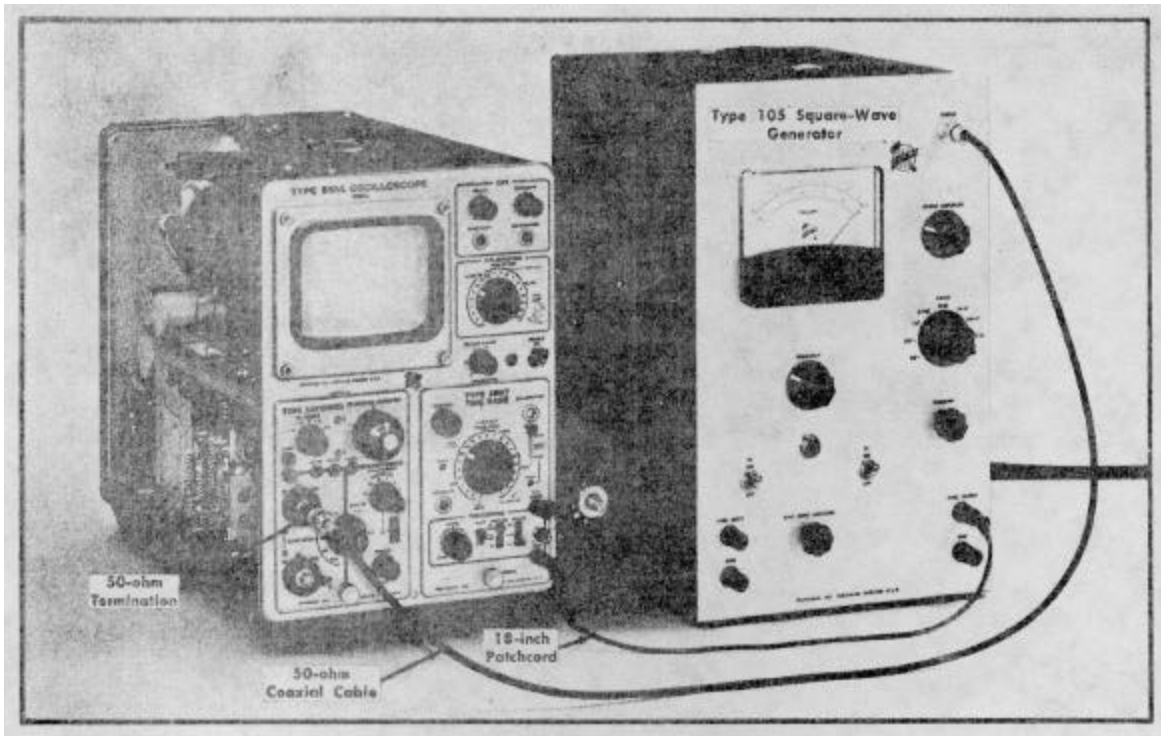

Fig. 5-22. Setup at completion of step 19c.
c. Apply a 10-kHz signal from the Type 105 Square-Wave Generator, or equivalent, through a 50-ohm coaxial cable and a 50-ohm termination to the Type 3A7 input A connector. Connect an 8-inch patch cord between the Type 105 Sync Output connector and the time-base Ext Trig connector. Fig. 5-22 shows the complete setup.
b. Apply the 10-kHz signal from the square-wave generator through the coaxial cable and termination to the Type 3A7 input B connector. Connect the generator sync output patch cord to the time-base Ext Trig connector. Set the generator DC switch to On. (This is the same setup as shown in Fig. 5-22, except the 10-kHz 10-volt signal is applied to input B.